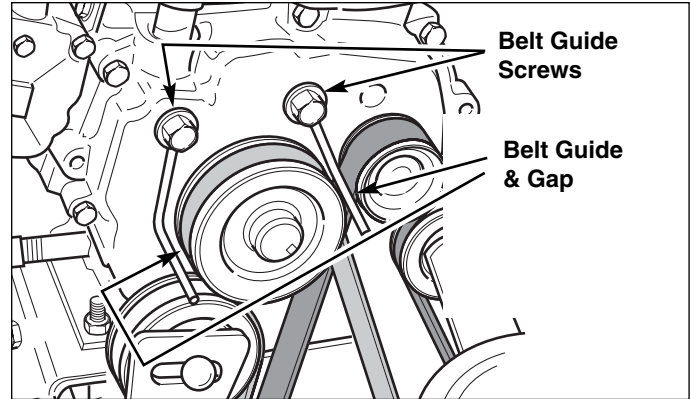

Figure 28. Auger Belt Guide Adjustment
4. Loosen auger belt guide and slide belt off engine pulley and away from idler pulley. (See Figure 28).